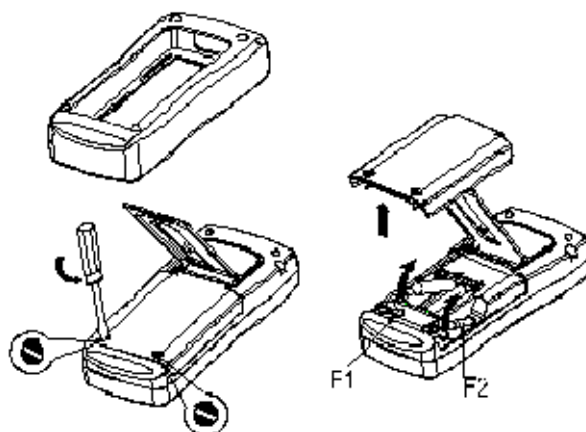

Figure 14 Replacing batteries and fuses the battery door.
Step 2: Remove the protector as shown in Figure14. With a standard blade hand screwdriver, turn each battery door screw a quarter counterclockwise to remove